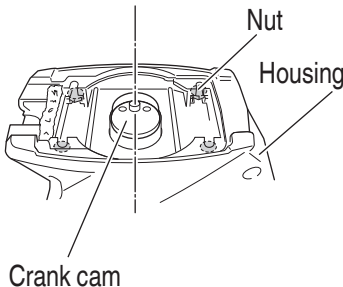

Fig. 10
3. Rotate the crank cam with your hand and move it to the position shown in the figure. (**Fig. 10**)